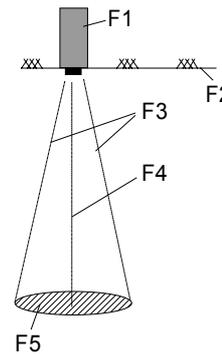

Figure 5: Mounting height GE 254
**Mounting height** (Figure 5)